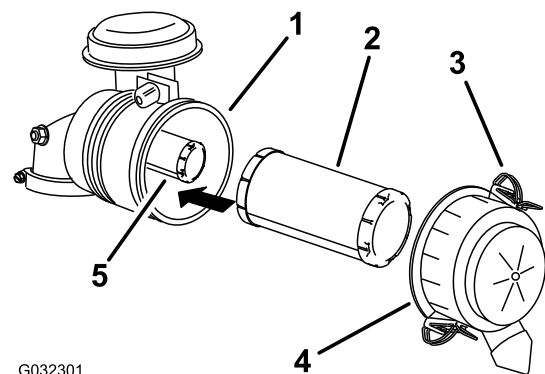

Figure 44
3. Release the latches on the air cleaner and pull the air-cleaner cover off the air-cleaner body (Figure 44).
5. Gently slide the primary filter out of the air-cleaner body (Figure 44).
2. If you are replacing the safety filter, carefully slide it into the filter body (Figure 44).
3. Carefully slide the primary filter over the safety filter (Figure 44).
4. Install the air-cleaner cover with the side indicated as **up** facing upward and secure the latches (Figure 44).